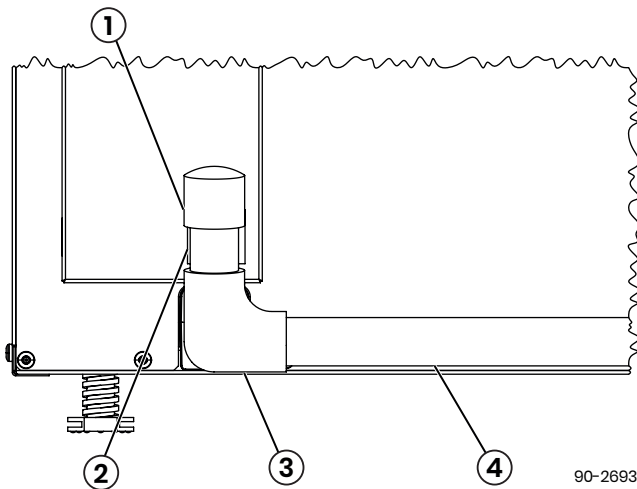

Figure 14: Capped Drain Access for Cleaning
- Install a tee or three-way elbow at the dehumidifier outlet with a small, capped vertical tube (do not cement cap in place) to allow for cleaner to be poured into the drain line (*see Figure 14*).